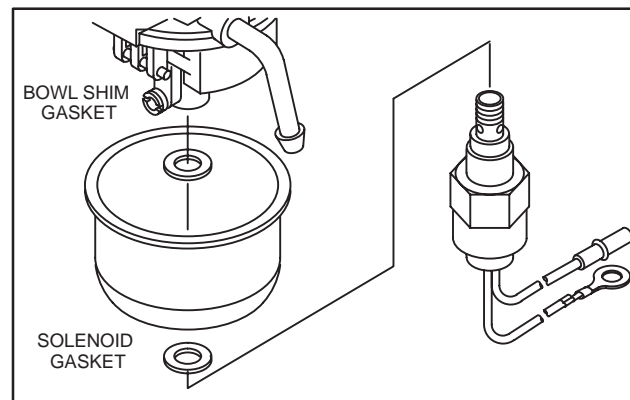

Fig. 49 – Install Float Bowl
11. Install float bowl with new gaskets, Fig. 49.